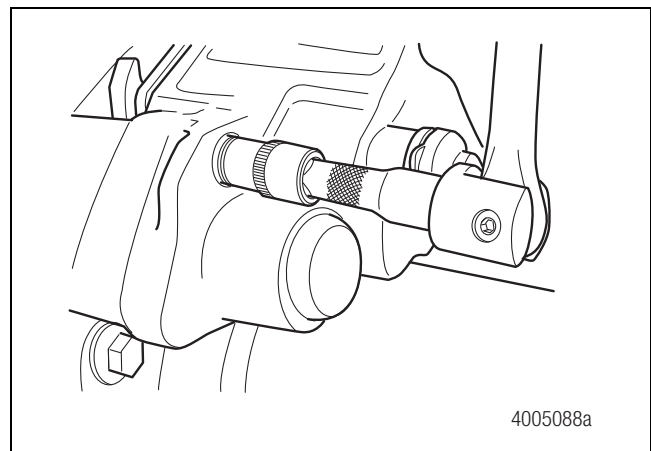

Figure 6.22
2. Use the correct size Torx socket (E18 for EX+ L models, E20 for EX+ H models) to remove the four bridge bolts. Figure 6.22. Discard the bridge bolts after they have been removed. They are no longer usable.